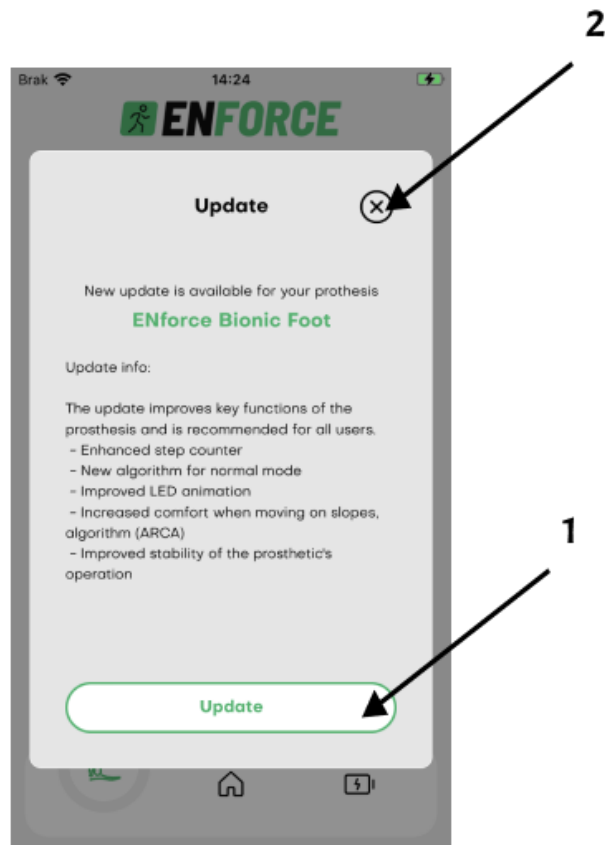

Figure 19: Notification about available update and patch notes.
If a new software version becomes available after the application has been connected to the product, the user is presented with a dialog box informing them of the changes (*Figure 19*). After reviewing the changes, the user can initiate the update procedure by pressing the Update button (1) or postpone the update by closing the window with the "X" symbol (2).